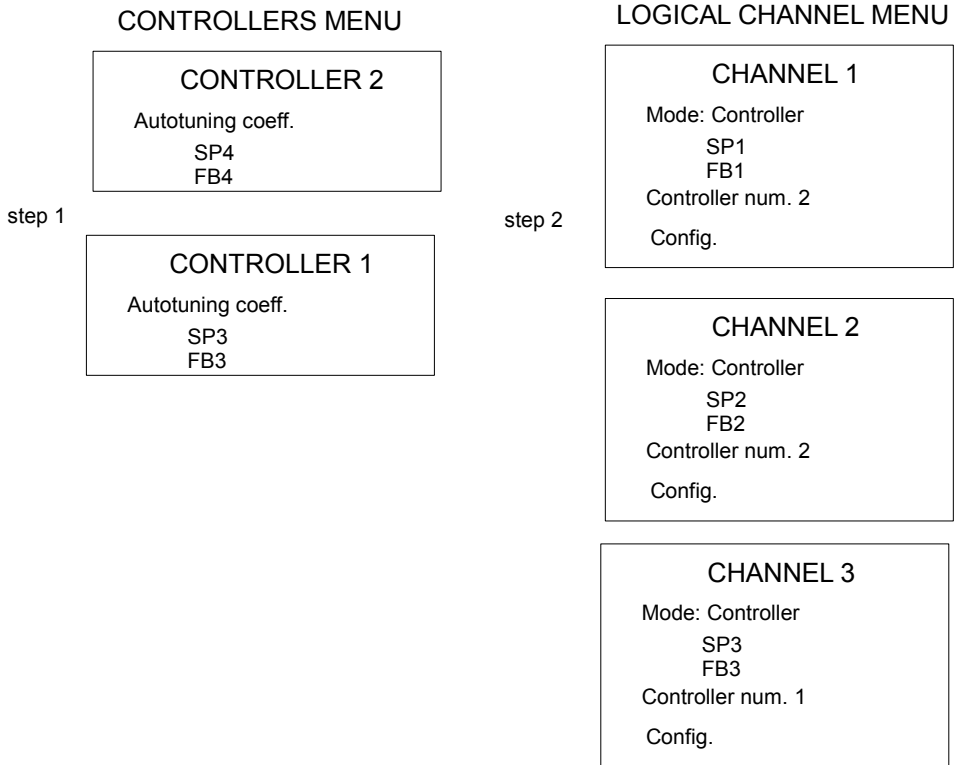

Fig. 7.123. Configuration diagram of the **Controller** using Controller Menu
- through the menu Controllers in the Device Configuration menu (see **Fig. 7.123**),